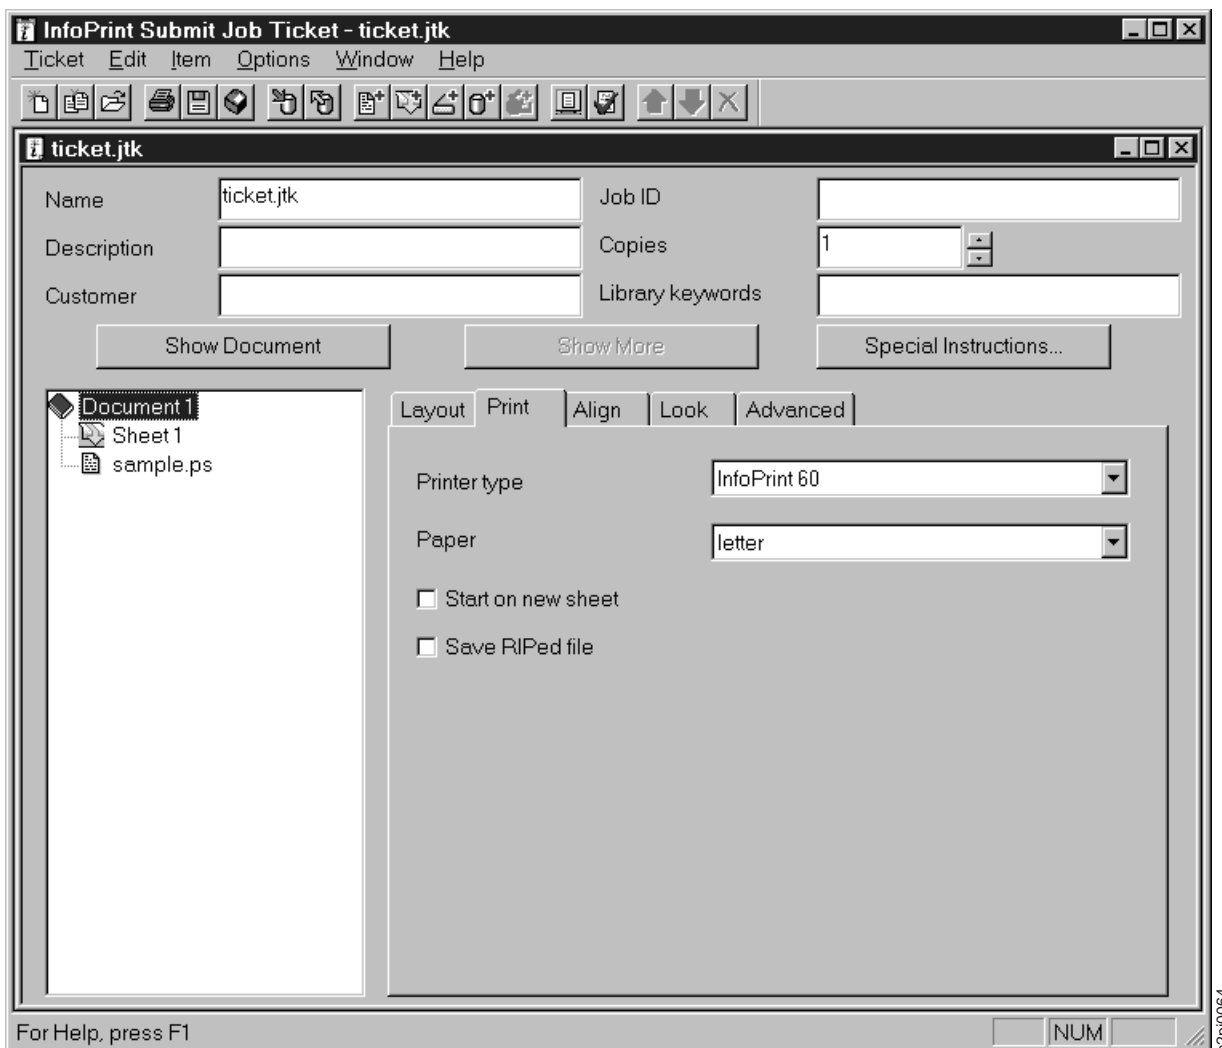

Figure 30. InfoPrint Submit Job Ticket Window - Print Tab
1. Select the Print tab in the InfoPrint Submit Job Ticket window (Figure 30).